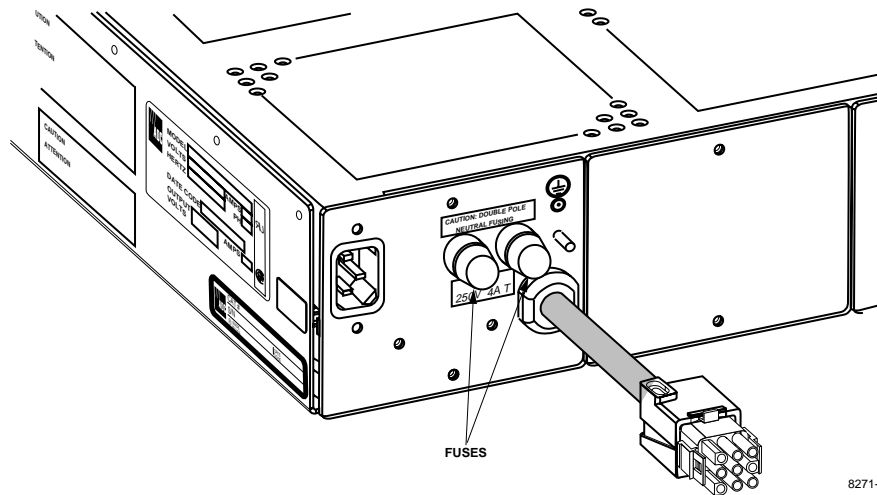

Figure 5. DMPS-10CE Fuse Location
- (d) Turn fuse holder carrier in a counter-clockwise direction and remove fuse carrier from fuse holder. Fuse location is shown in Figure 5.